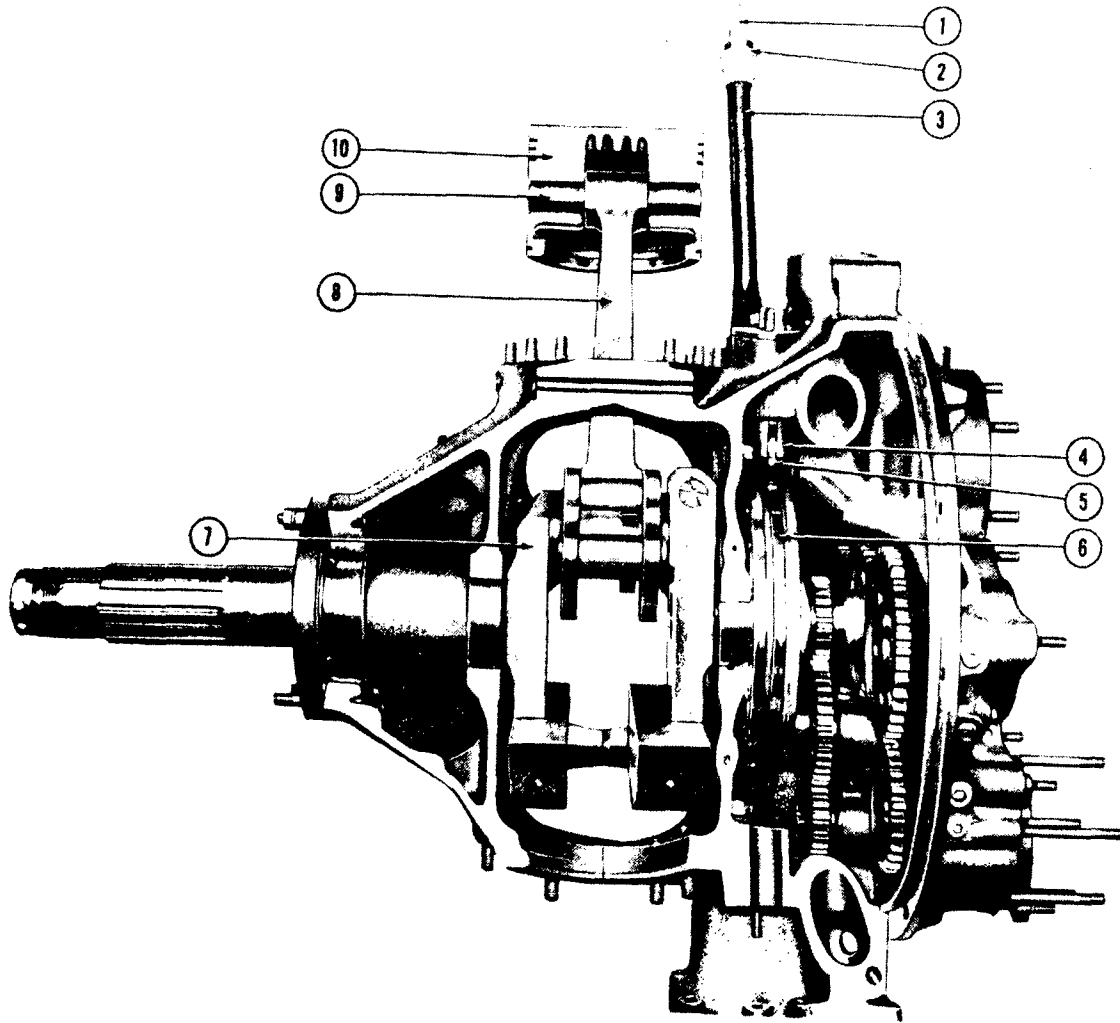

Figure 22—Left Side Cutaway View of Typical W670 Engine
9. VALVE OPERATING MECHANISM (See figures 22 and 23)